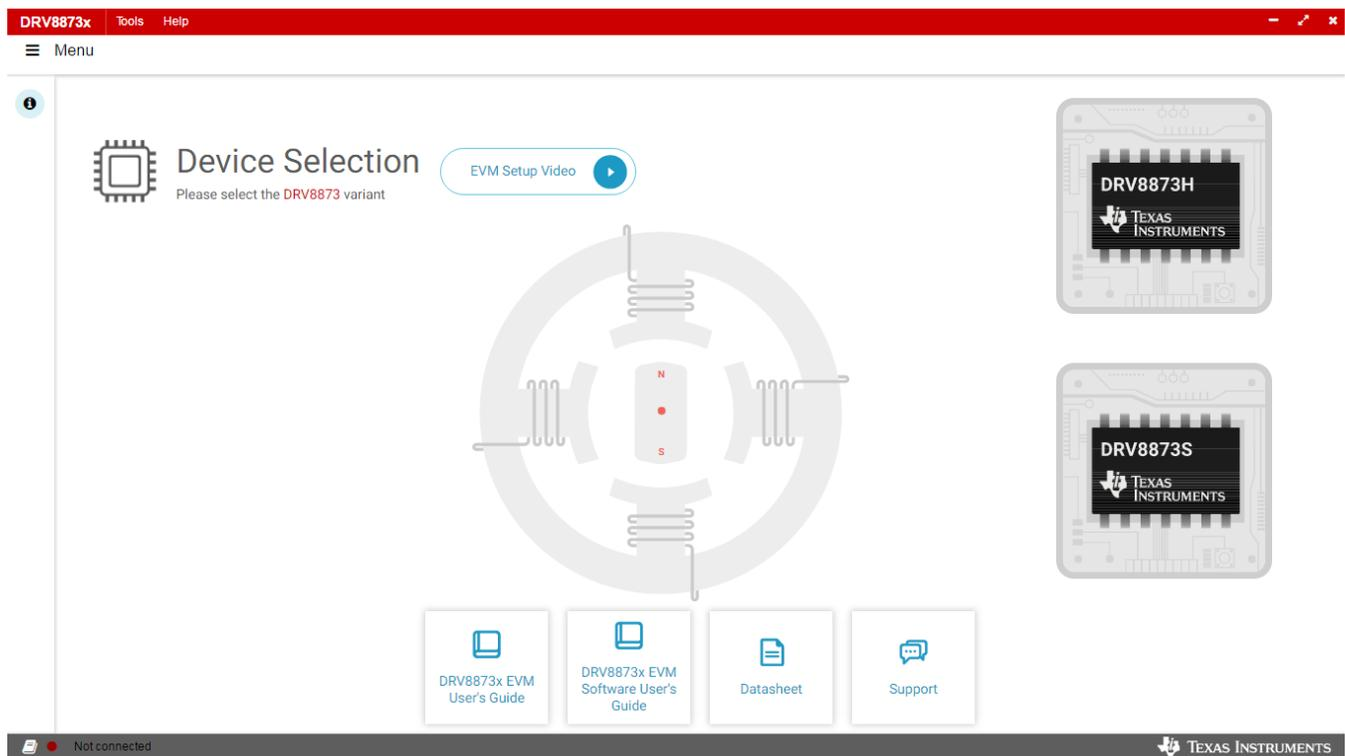

Figure 1. DRV8873x EVM GUI (Launch Page)
Figure 1 shows the launch page for the DRV8873x EVM GUI.
- Step 5. Select the device variant to be used in the launch page shown in Figure 1.